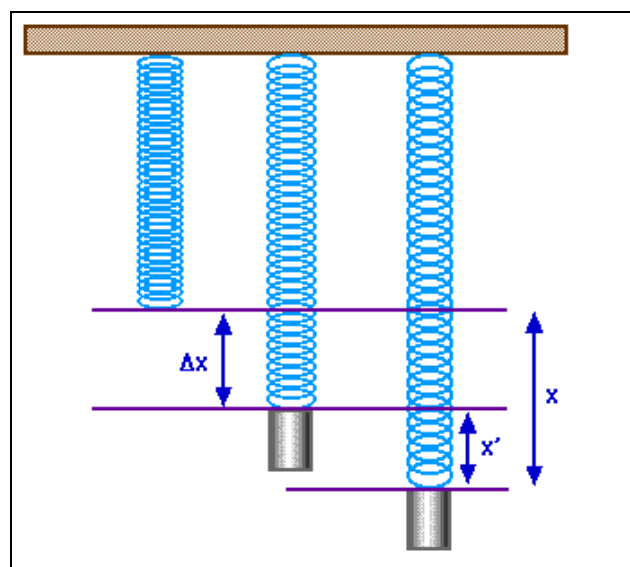

Figure 3
3. Once the robot can move forward, the next step is to determine the spring constant of your linear spring. This may be done by simply hanging a mass from the linear spring and noting the deflection. The force or load you are placing on your spring is simply the product of the mass itself, and the acceleration due to gravity of 9.81 m/s^2 . See Figure 3.
Caption: Figure 3: **Linear Spring with applied force of gravity (g)**